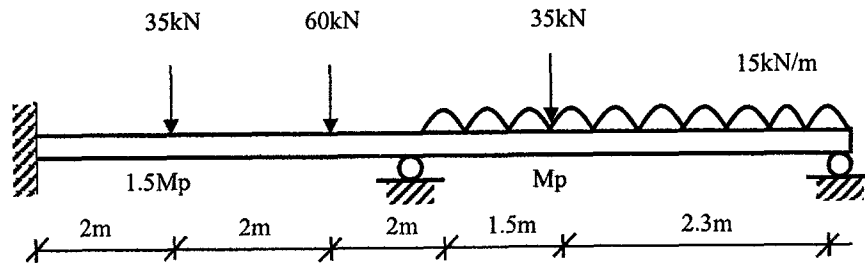

Figure 2.0
- A continuous of beam ABC carries working loads as shown in Fig. 2.0. Assuming a load factor 2.0, design suitable section for span AB and BC. Shape factor is 1.12 and yield stress of steel is 250 MPa.